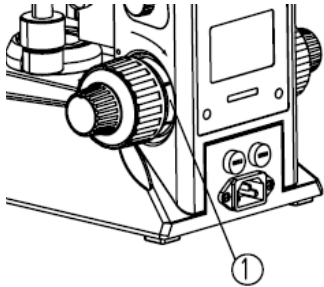

Fig.11 Focusing Tension Adjustment ring
The focusing tension adjustment ring ① (Fig.11) is located on the right side between the stand and the coarse focusing knob. Use the ring if one of the following conditions is true: